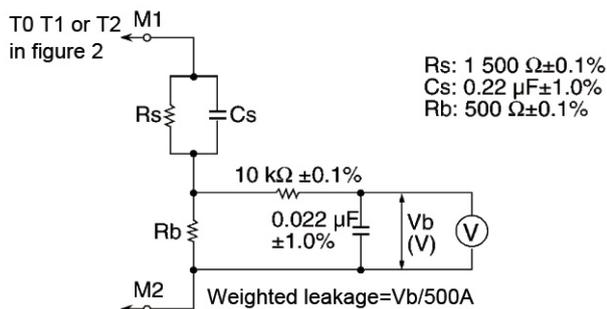

Figure 1
1. Be ready to measure circuit in figure 1 below.